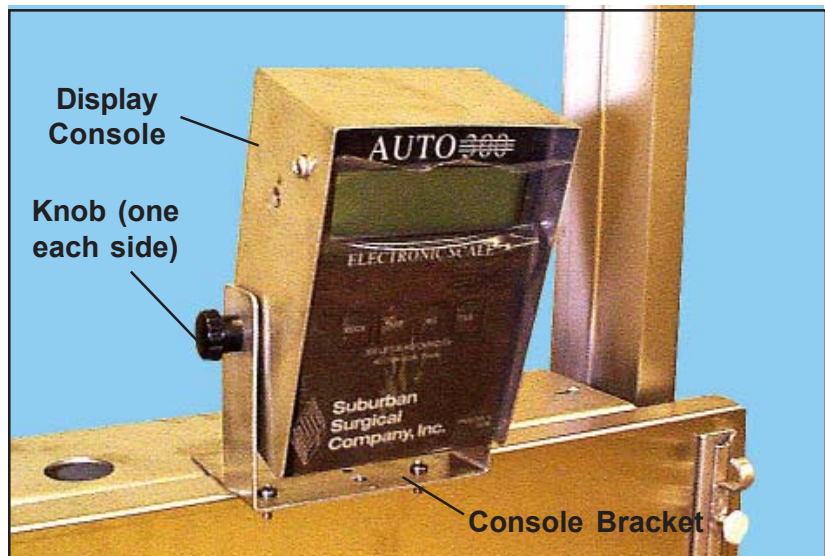

Figure 19. Mounting the Display to the Bracket
3. Mount the display console to the console bracket with two plastic knobs (Figure 19).